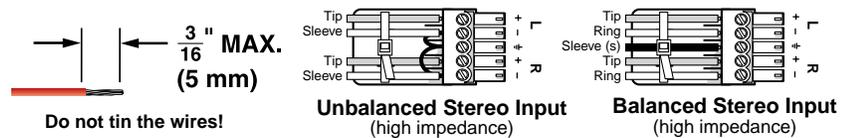
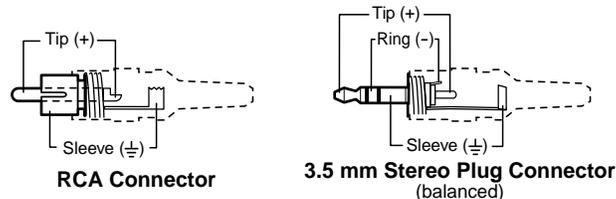

Figure 2-18 — Captive screw connector wiring for audio inputs
Figure 2-19 — Typical audio connectors
- ④ Connections for balanced and unbalanced audio inputs — Each input has a 3.5 mm, 5-pole captive screw connector for balanced or unbalanced stereo audio input. Connectors are included with each switcher, but you must supply the audio cable. See figure 2-18 to wire a connector for the appropriate input type. Use the supplied tie-wrap to strap the audio cable to the extended tail of the connector. High impedance is generally over 800 ohms.
NOTE See figure 2-19 to identify the tip, ring, and sleeve when you are making connections for the switcher from existing audio cables. A mono audio connector consists of the tip and sleeve. A stereo audio connector consists of the tip, ring and sleeve. The ring, tip, and sleeve wires are also shown on the captive screw audio connector diagrams, figure 2-18 and figure 2-20.